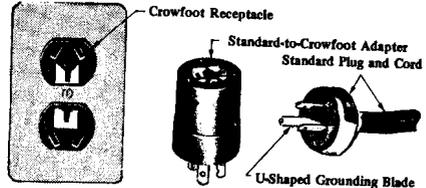

FIGURE 2. Standard-to-crowfoot Adapter.
- 3.02 All electric power tools (except lamps and soldering coppers) should be equipped with a 3-conductor cord which terminates in a 3-blade plug (see Figure 2). Lamps and soldering coppers do not require grounding.
NOTE: The standard to crowfoot adapter must be used when the receptacle is a crowfoot type and the plug is standard. See Figure 2.